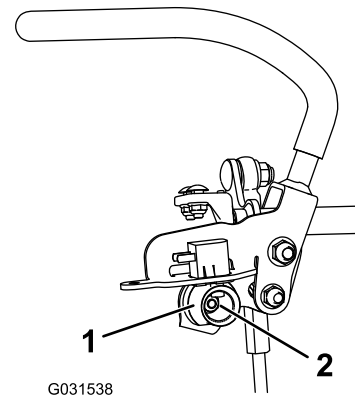

Figure 70
7. Loosen the nut holding the cam (Figure 70).